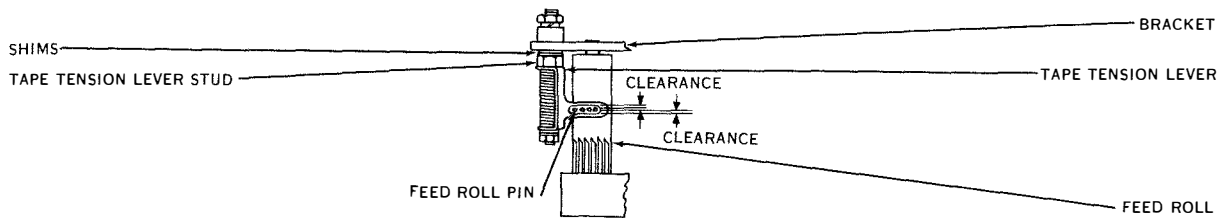

Figure 7-56. Tape Tension Lever Stud
(55) TAPE TENSION LEVER STUD. (See figure 7-56.)—The tape tension lever stud should be centrally located with respect to the feed roll pins. To check, take up the feed roll end play toward the star wheel and the tension lever end play toward its adjusting nut. The edge of the lever slot may touch the feed roll pins on the side nearest the ratchet but there must be clearance on the opposite side.